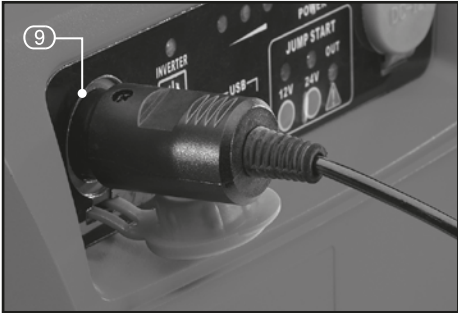

FIG.6
9.4 USING THE JUMP STARTER AS A 12V DC, 230V AC OR USB POWER SOURCE (FIGS.6 – 9)